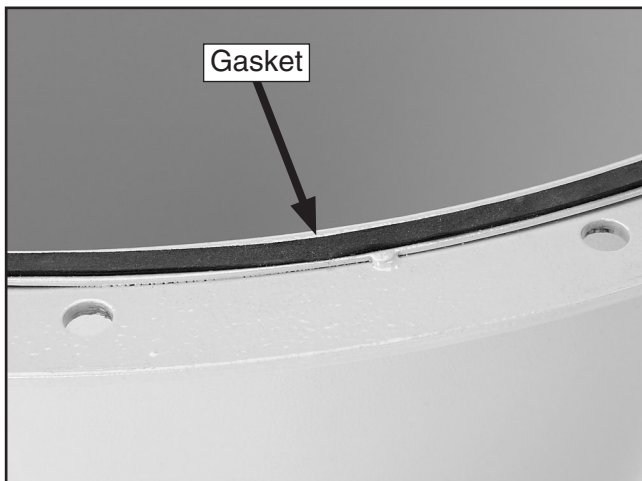

Figure 15. Gasket applied to the intake cylinder rim.
1. Place the intake cylinder on the floor and apply the 3 x 6 x 1800mm gasket to the intake cylinder top rim, between the mounting holes and the inside edge (see **Figure 15**).